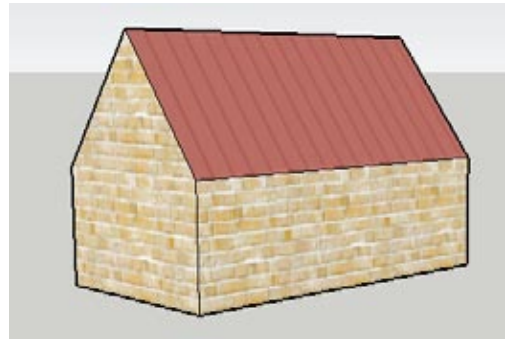

Figure 5-1
1. Start with a house like the one in Figure 5-1. (Make a simple box with a line between midpoints along the top face. Then use Move to move this line straight up.)